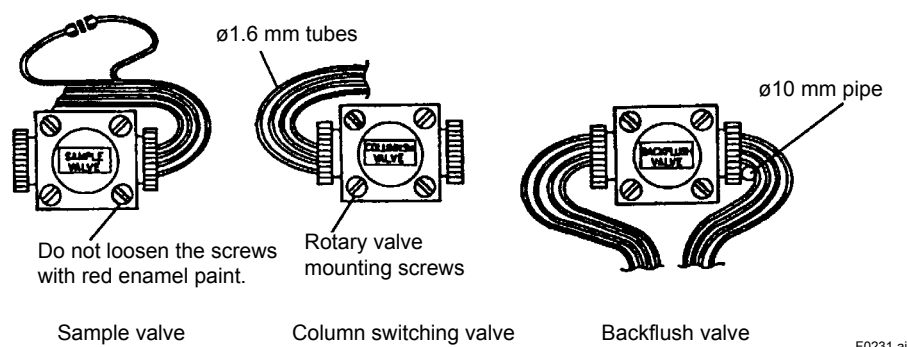

Figure 6.31 Replacing rotary valves
- (6) Turn off the supply of the purging air and carrier gas. For a detection system with an FID, turn off the supply of hydrogen (or nitrogen) gas and combustion air as well.
- (7) Open the control unit door using a key included in the accessory kit.
- (8) Remove the couplings connected to the rotary valve. When removing the couplings, label them for ease of identifying the connections later. The rotary valve is either a single-sleeve or double-sleeve type, depending on the specifications. Each type comprises four to six pipes extending from the sleeve.
- (9) Remove the two screws which are not painted with red enamel to disassemble the rotary valve. Do not touch the two screws which are painted red.
- (10) Install a new rotary valve. When installing it, it is necessary to bend pipes as shown in Figure 6.31. When bending a pipe, use another pipe that is approximately 10mm in diameter to support it and avoid excessive force applied on the root of the pipe. The cap nuts at the tip of the pipes are inscribed with numbers. Engage these cap nuts according to the pre-labeled numbers or per column system diagram in the operation data.
- (11) Perform a leak test on the piping.